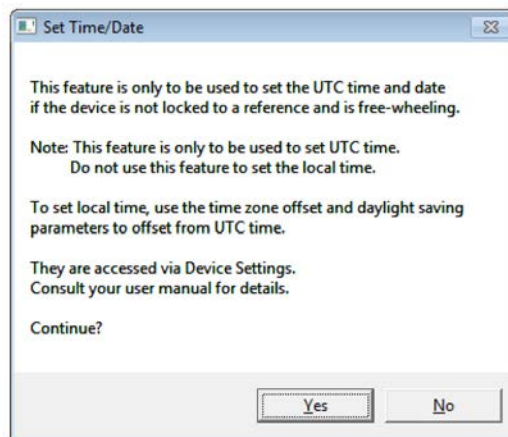

Figure D.27: Set Time/Date
- 10 A message will be shown (see Figure D.27).